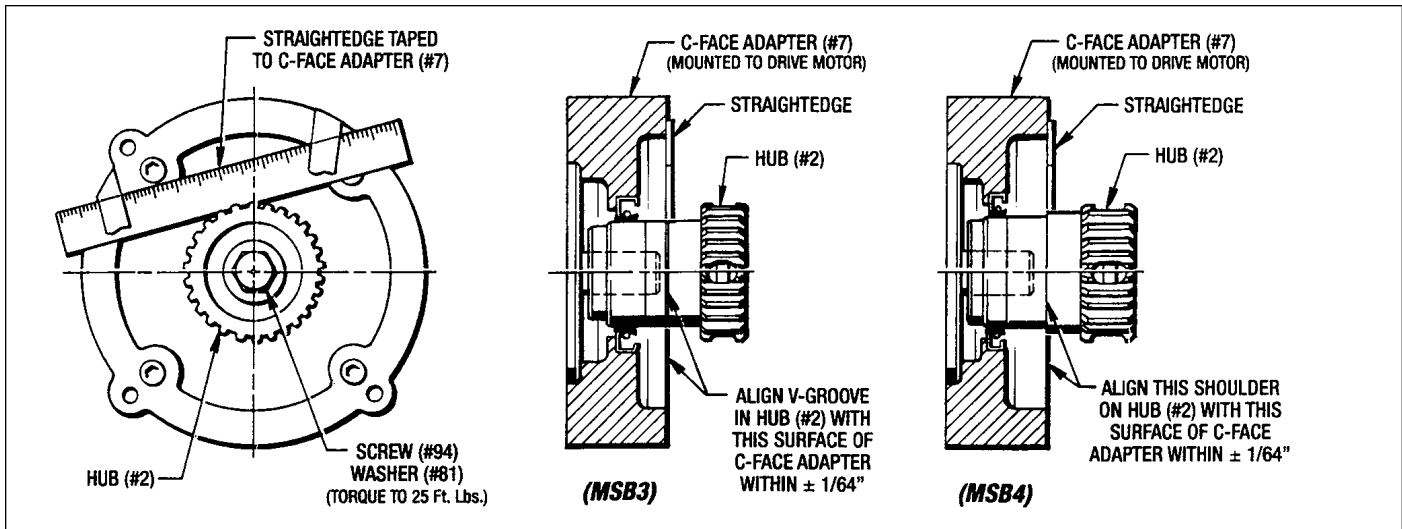

Figure 3.2 - Hub Alignment - Sizes MSB3 and MSB4
8. Tape a steel straight edge to the face of the C-Face Adapter (#7) as shown in Figure 3.2.
(back edge of the straight edge). This alignment should be within plus or minus 1/64". (See Figure 3.2)